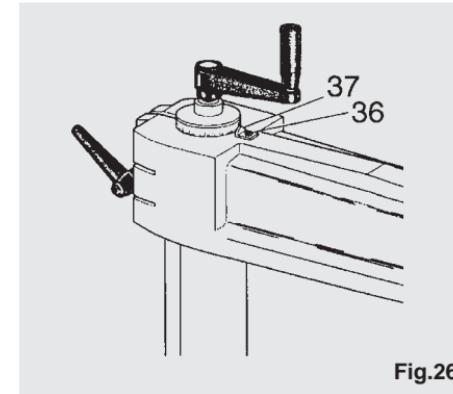

Fig.26
Once the perpendicularity of the arm to the abutting straightedge is obtained, proceed to the final setting of the arm index (see figure 26). Loosen screw (36) and move index (37) until it is aligned with the 0 position on the graduated nonius.